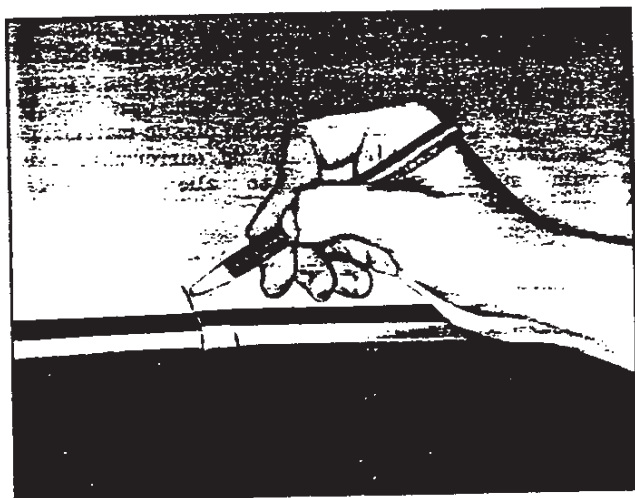

Fig. 67—Marking Molding Position
2. Mark position of right-hand upper reveal molding end (fig. 67) and pry out from retaining clips. Repeat for left-hand and lower molding assemblies.
3. Remove lower (inside) garnish molding by removing four (4) nuts from fixed studs and carefully pulling molding outward.